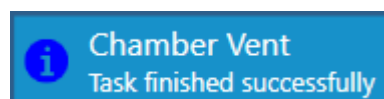

Figure 6-6 Chamber vent finished
- Wait until the vent and purge sequence finishes. The Status panel returns to normal and a **Task finished successfully** panel displays for a short time at the bottom right of the page (see Figure 6-6).